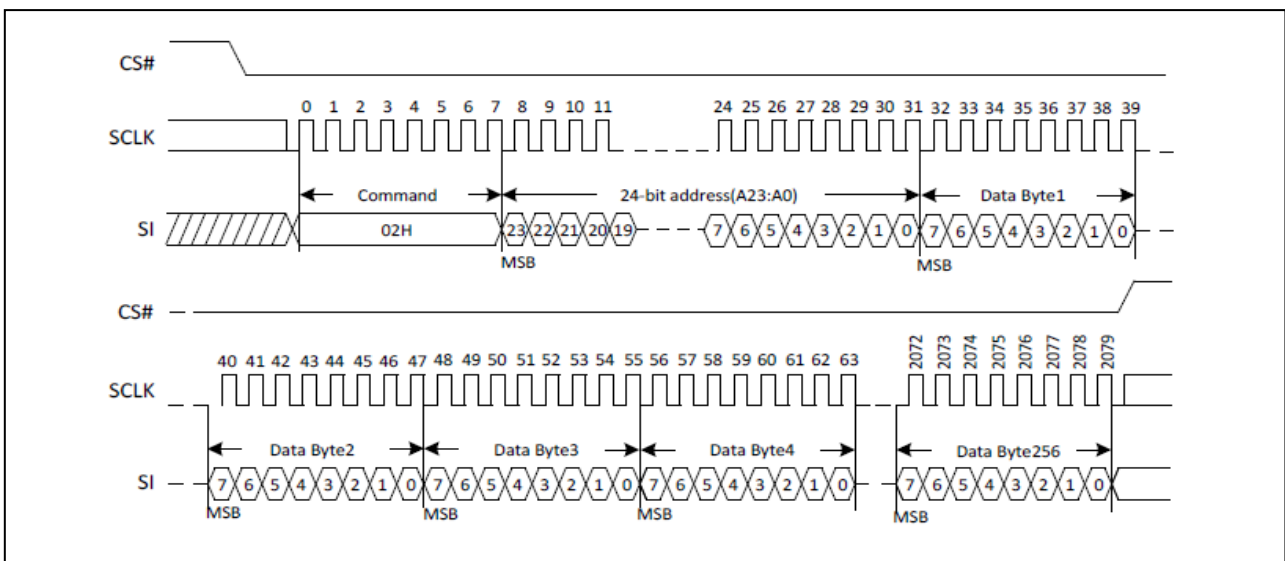

Figure16. Page Program Sequence Diagram
The Page Program (PP) command is entered by driving CS# Low, followed by the command code, three address bytes and at least one data byte on SI. If the 8 least significant address bits (A7-A0) are not all zero, all transmitted data that goes beyond the end of the current page are programmed from the start address of the same page (from the address whose 8 least significant bits (A7-A0) are all zero). CS# must be driven low for the entire duration of the sequence. The Page Program command sequence: CS# goes low sending Page Program command 3-byte address on SI at least 1 byte data on SI CS# goes high. The command sequence is shown in Figure16. If more than 256 bytes are sent to the device, previously latched data are discarded and the last 256 data bytes are guaranteed to be programmed correctly within the same page. If less than 256 data bytes are sent to device, they are correctly programmed at the requested addresses without having any effects on the other bytes of the same page. CS# must be driven high after the eighth bit of the last data byte has been latched in; otherwise the Page Program (PP) command is not executed.